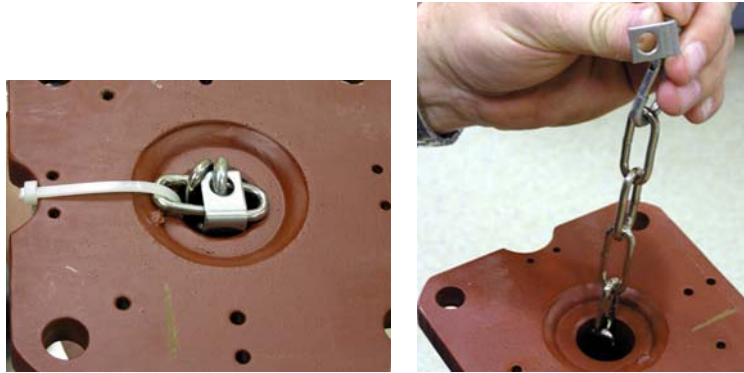

Figure 2-8 Safety Chain
- 3.) When attaching the safety chain (Figure 2-8), be sure the M10 bracket hardware is properly torqued. The torque for the M8 is 19.2N-m (14.2 ft-lbs).